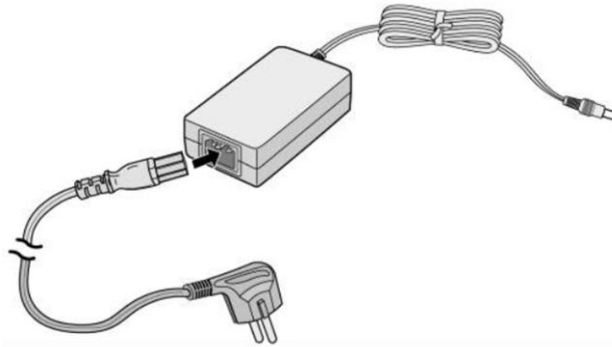

Figure 2.2.3-1 AC/DC Adapter for LIP-Phones & Console
When an LIP-7000 or LIP-8000 series terminal is to be powered from local AC (not provided power over the LAN), a separate AC/DC adapter, Figure 2.2.3-1, must be used for power. The adapter is supplied with a two (2) meter (six (6) foot) AC cord terminated with the nationally relevant AC blade type. The adapter supports AC input power systems with rated voltage range of 100-240 VAC @ 50/60 Hz. The adapter provides 48 VDC at 0.3 amps. The DC output connector is cabled to the adapter with a two (2) meter (six (6) foot) cable.